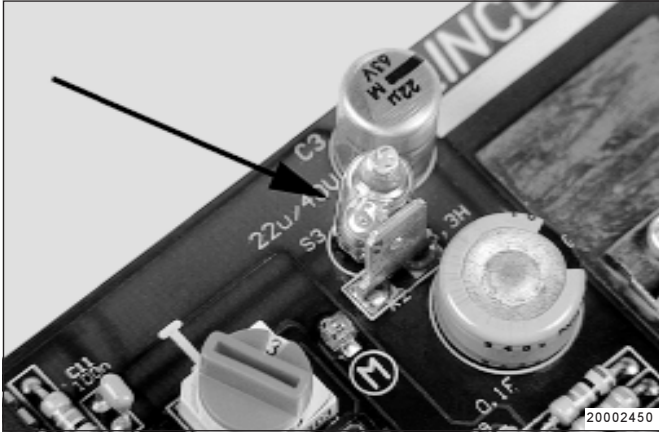

Fig. 9: Shock sensor
- * Slightly push the pump causing the shock sensor (mercury switch, Fig. 9) to move.